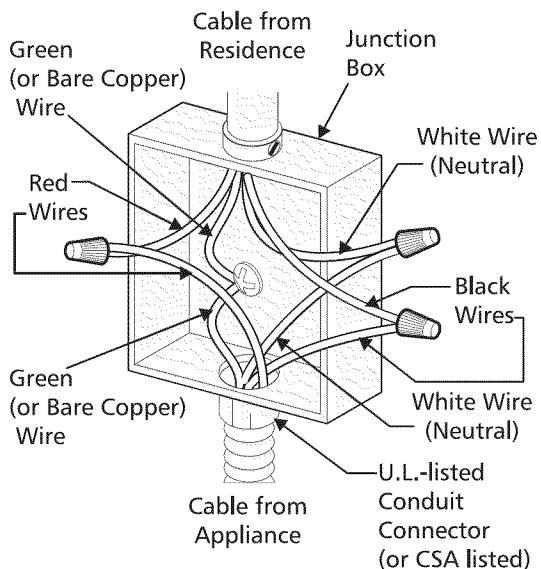

Figure 6 – 4-Wire Electrical System
Where local codes DO NOT permit connecting the appliance-grounding conductor to the neutral (white) wire, or if connecting to 4-wire electrical system (see Figure 6):
3. In the circuit breaker, fuse box or junction box: connect appliance and residence cable wires as shown in figure 6.